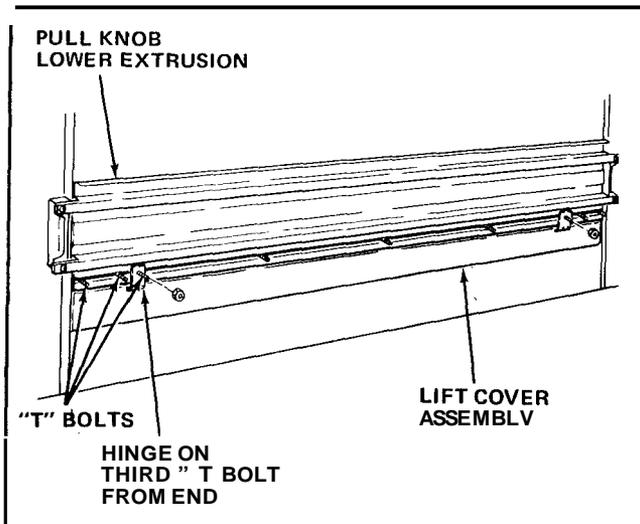

FIGURE 4
7. Install the Sanitary Lift Cover Assembly created in step 1. The Hangers on the Cover Assembly are to be attached to the Pull Knob Lower Extrusion with the third "T" Bolt from each end of the Extrusion. See Figure 4. Loosely attach the Hangers with the two Nuts included in the Kit.